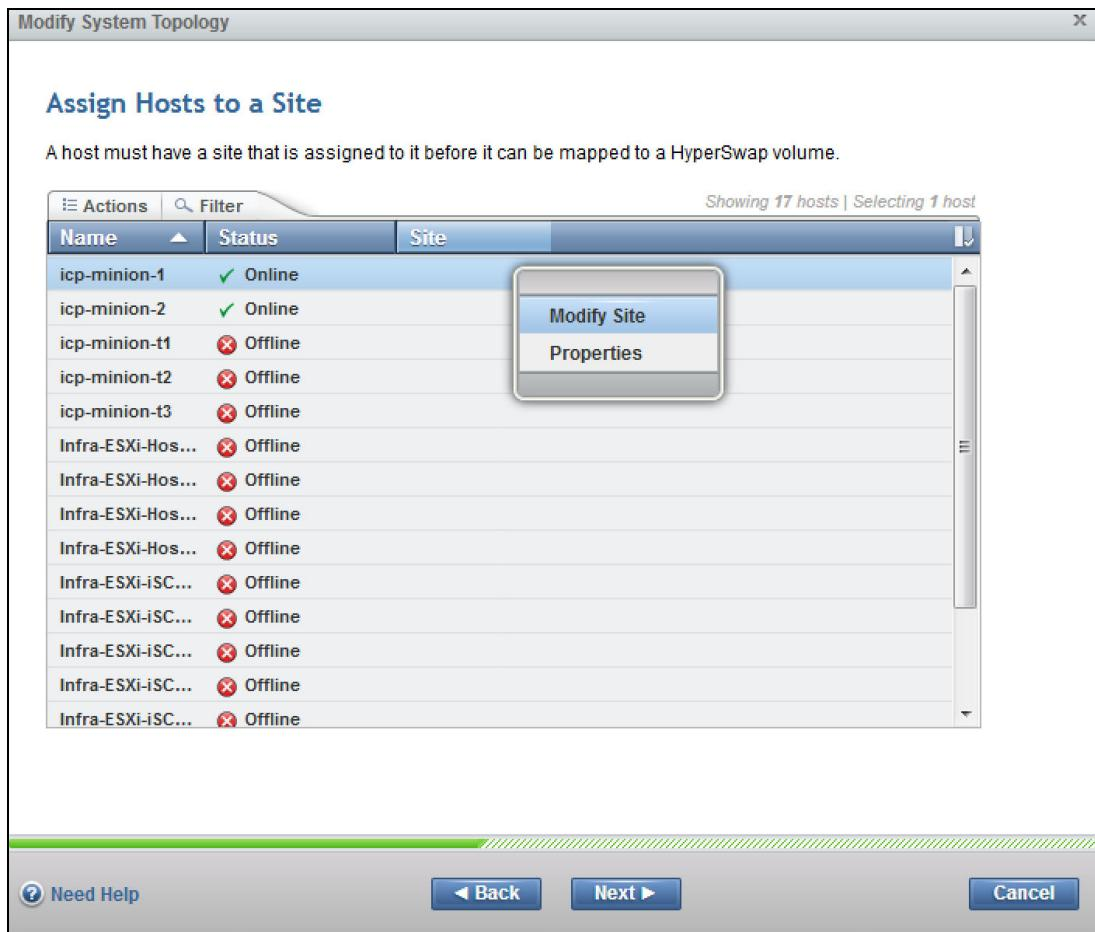

Figure 4-37 Adding a Host to the site
- Add a Host to the site in a HyperSwap configuration, as shown in Figure 4-37. Hosts need to be mapped to a site before HyperSwap volumes can be mapped to them.